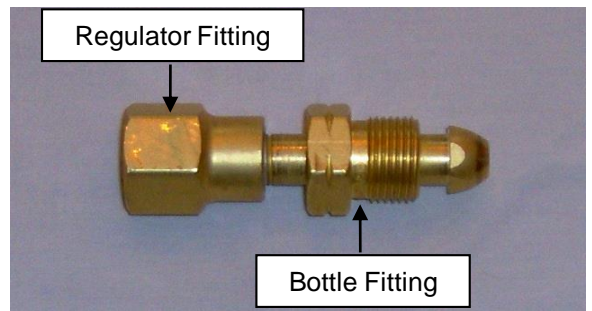

Figure 1
Important Note: *Compressed Air Cylinders are supplied with a Female left-hand thread Bottle fitting (CGA-590). Pressure Regulators BEREG01 or BEREG02 supplied in the Blowing Head Equipment Kit have a Male right-hand thread Nut (CGA-580). A CGA-590 Industrial Air Cylinder-to-CGA-580 Nitrogen Regulator Cylinder Adapter is therefore required to connect the Pressure Regulators to the Bottle fitting. One (1) Cylinder Adapter is required for each Pressure Regulator used. **See Fig. 1.***